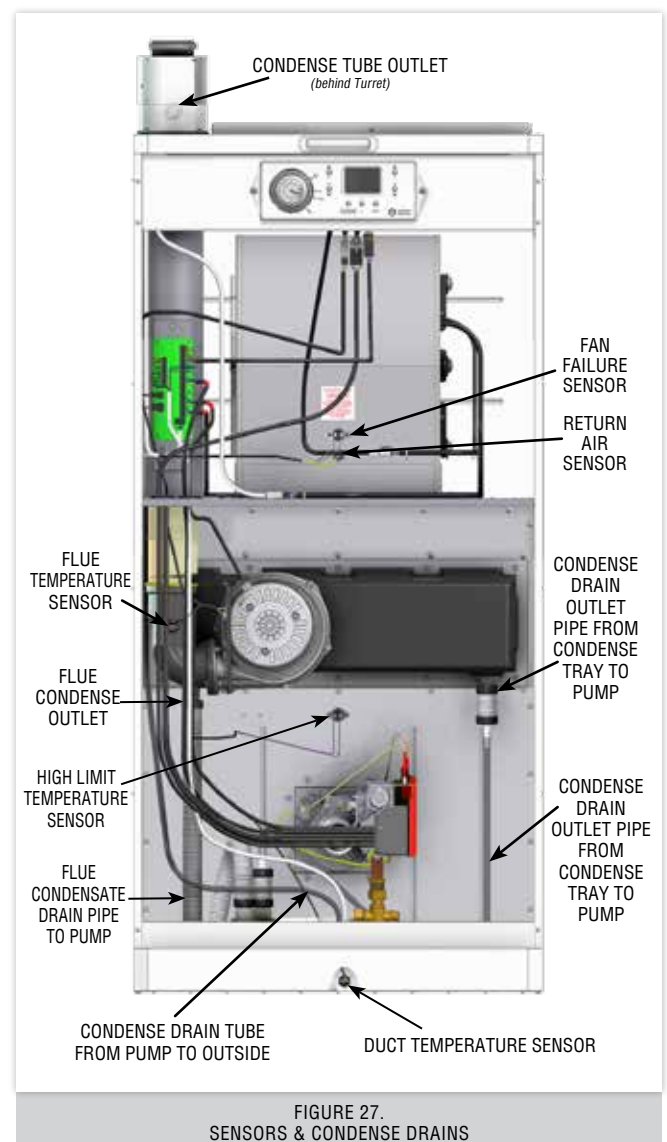

FIGURE 27.
- 17.4.3 Unplug the 2 wires from the temperature sensor and remove the 2 retaining screws. See Figure 27.
- 17.6.2 Carefully remove the 2 spade connectors from the sensor and unscrew the sensor from the plastic flue elbow. See Figure 27.
- 17.7.2 Unplug the 2 wires from the temperature sensor and remove the 2 retaining screws. See Figure 27.